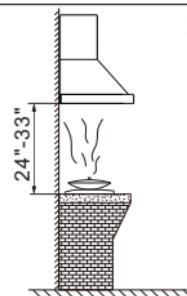

Fig.2
2. Install the range hood right above the cooking surface. The recommended distance between the cooking surface and the lower edge of the range hood is minimum 24" to maximum 33". (Fig.2)